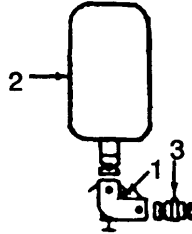

Figure 4-12. Elbow Coupler Valve, Removal/Installation.
a. Removal. (Refer to Figure 4-12.)
- (1) Pull upon camlock levers on valve (1).
- (2) Remove valve (1) from fuel drum (2) and adapter (3).
- (1) Refer to Figure 4-12 and position valve (1) on fuel drum (2) and adapter (3).
- (2) Secure valve (1) to fuel drum (2) and adapter (3) by pushing down on camlock levers.